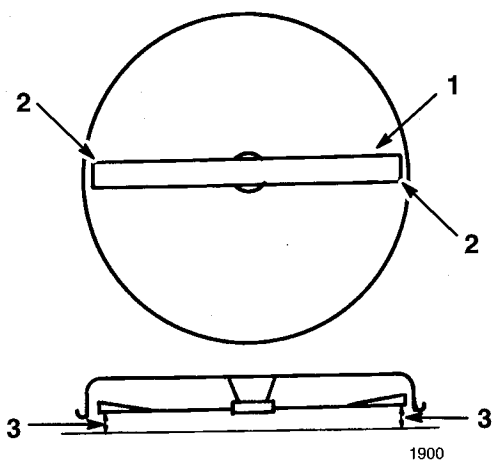

Figure 44
4. Carefully rotate blade(s) side to side (Fig. 44). Measure between the outside cutting edges and the flat surface (Fig. 44). If both measurements are not within $3/16$ " (4.762mm), an adjustment is required; refer to steps 5 and 6.